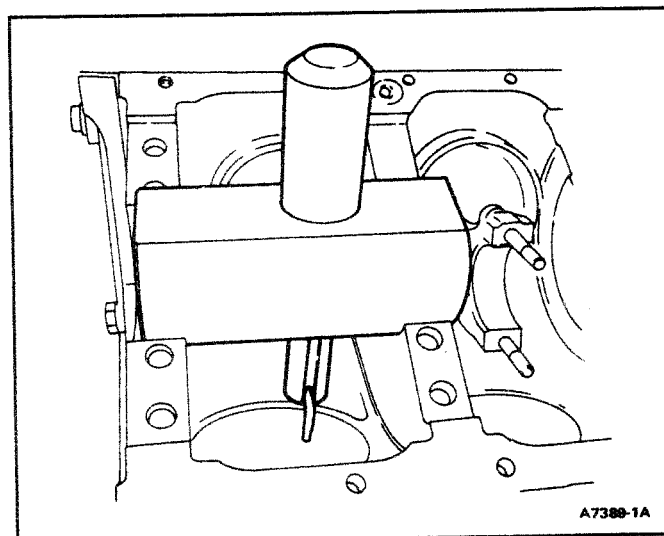

FIG. 87 Piston Cooling Jet Tool—Installation
1. Place Rotunda Model 014-00307 over saddles of main bearing. Place new oil cooling jet in tool and install in hole, align tool over hole (Fig. 87).